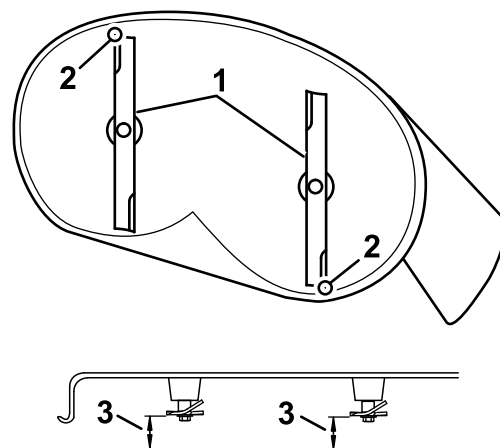

Figure 63
4. Carefully rotate the blades so they are facing front to rear (Figure 63).
5. Measure from the tip of the front blade to the flat surface and the tip of the rear blade to the flat surface (Figure 63).